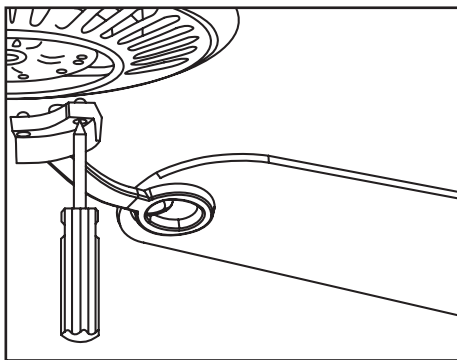

Figure 14
3. Fasten the blade assembly to the motor by inserting the alignment post into the slot on the bottom of the motor and tightening the motor screws. Please note that the motor screws are pre-attached to the blade bracket (Figure 14).